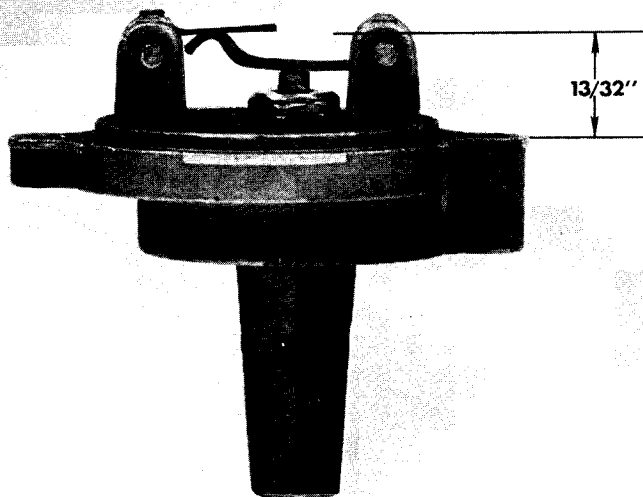

Figure 2. Gauging Primary Lever
5. Invert float bowl cover. Distance from face of shoulder to primary lever is $13/32$ " , plus or minus $1/64$ ". (Figure 2) Bend secondary lever as required.